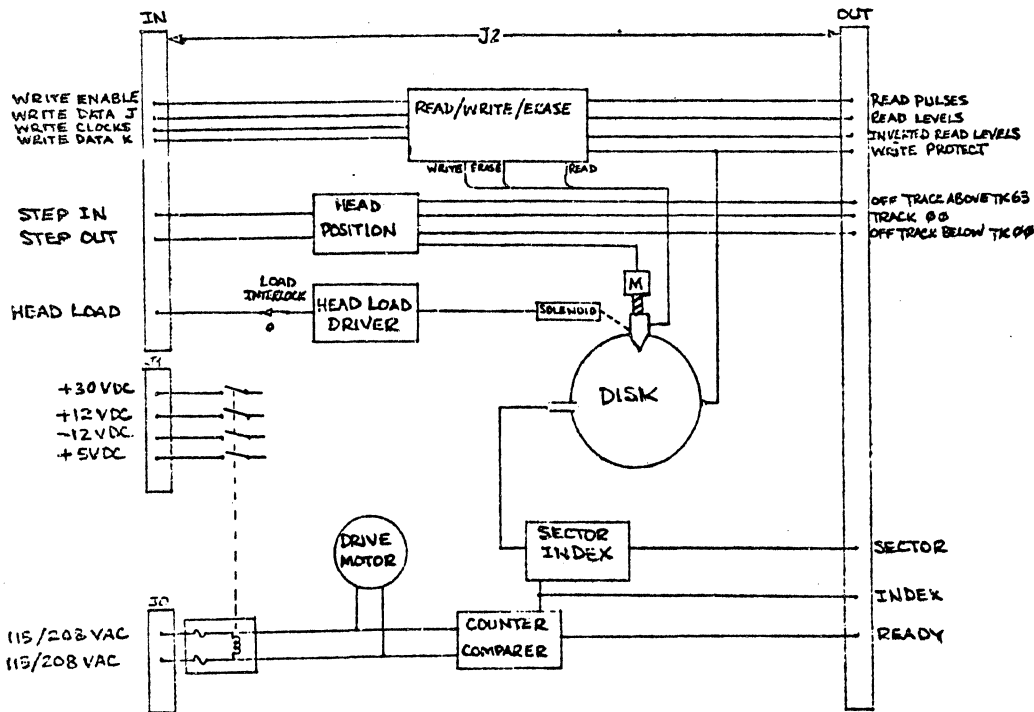

Figure 4-7. Functional Block Diagram
Figure 4-7 is a functional disk block diagram showing what must be furnished by the system (IN) and what the drive furnishes to the system (OUT).